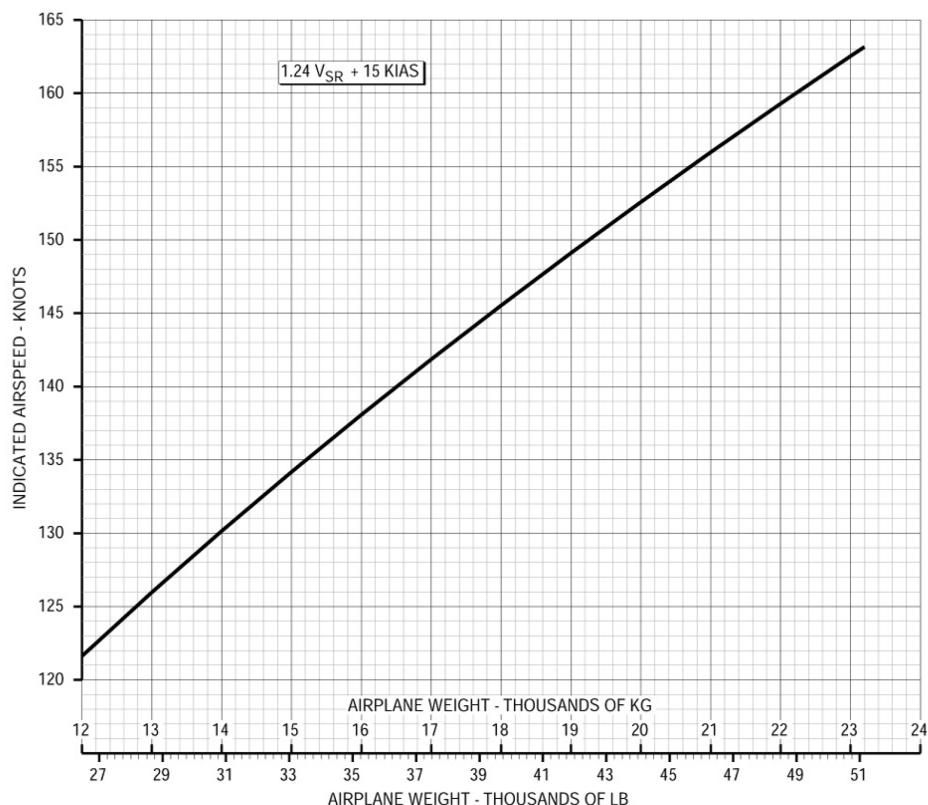

Figure 5-1 Minimum Airspeeds in Ice Formation Conditions
With known or suspected airframe ice accretion, keep airspeed above the value shown on graph Figure 5-1.
- Ensure that airspeed complies with the corresponding value on Figure 5-1.